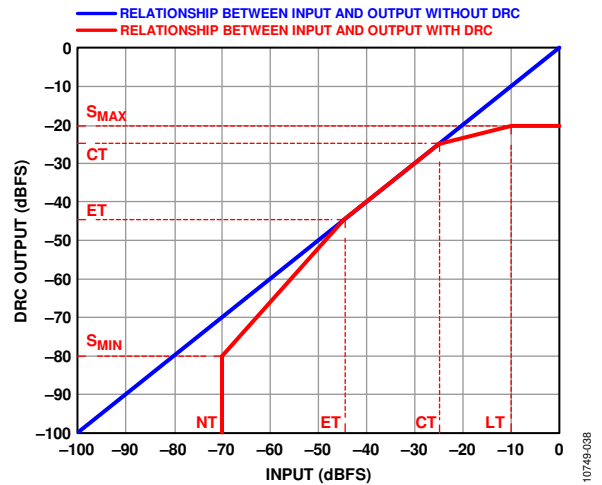
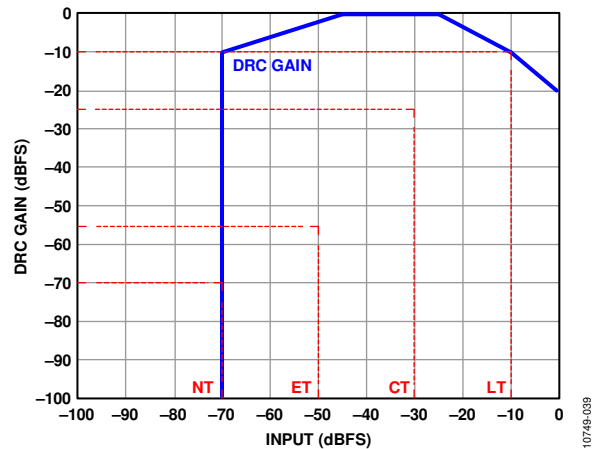

Figure 39. DRC Output vs. Input
Figure 40. DRC Gain vs. Input
An example of such a static curve is given in Figure 39, which shows the input and output signal levels. The blue line shows a linear relationship where the output dynamic range is identical to the input dynamic range. The red line shows a different output dynamic range from the input. Furthermore, this curve indicates that the signal dynamic range is larger when the input signal is low.
Figure 40 shows the gain values at various input signal levels.
A number of threshold levels (referred to the input) are used in Figure 39 and Figure 40; these levels are defined as the limiter threshold (LT), compressor threshold (CT), expander threshold (ET), noise gate threshold (NT), maximum output signal amplitude (S_MAX), and minimum output signal amplitude (S_MIN). The corresponding bits, DRC_LT, DRC_CT, DRC_ET, DRC_NT, DRC_S_MAX, DRC_S_MIN, can be found in Register 0x59 to Register 0x5D.